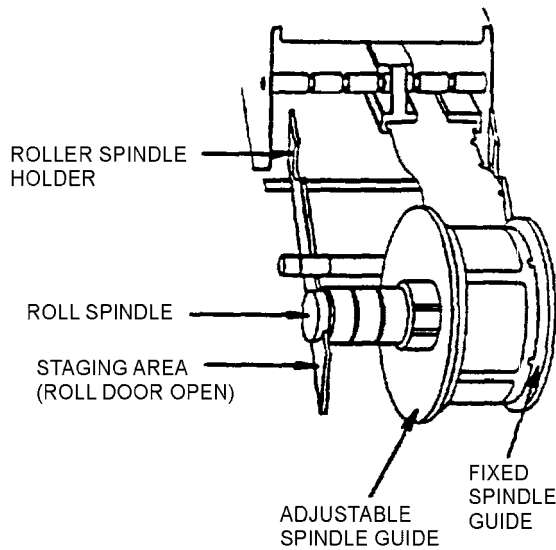

Figure 19. Spindle Guide
f. Locate the fixed and adjustable material guides found just beyond the spindle holder. Push adjustable material guide up in order to slide it from one slot to another along material guide detent shaft (Figure 19).